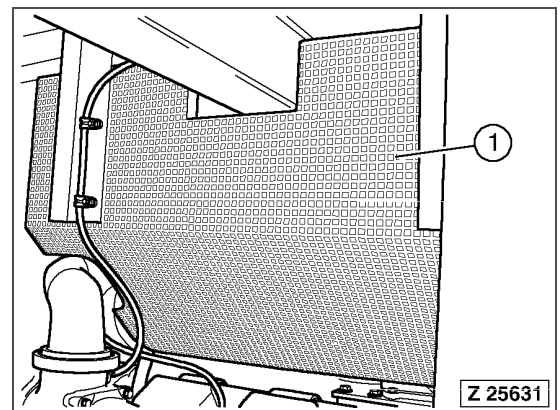

Fig. 3-5
- Remove the cover (Fig. 3-5, Pos. 1).